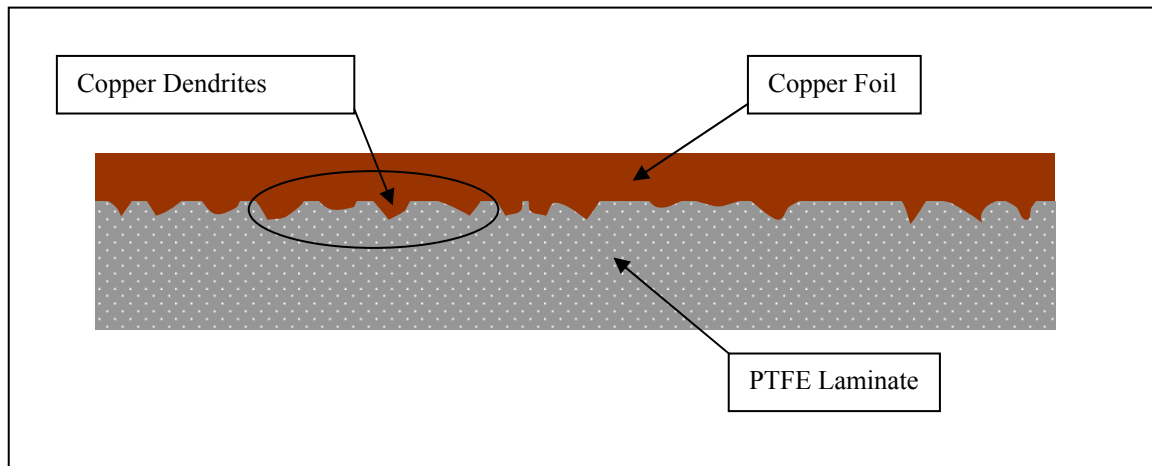
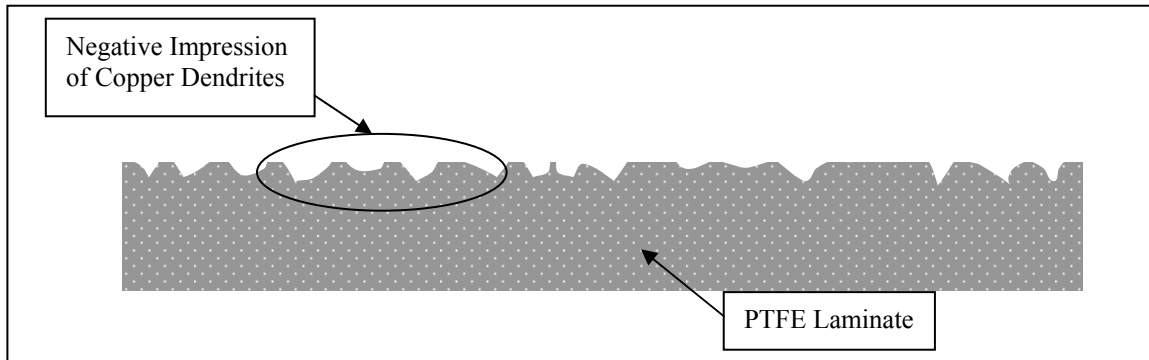
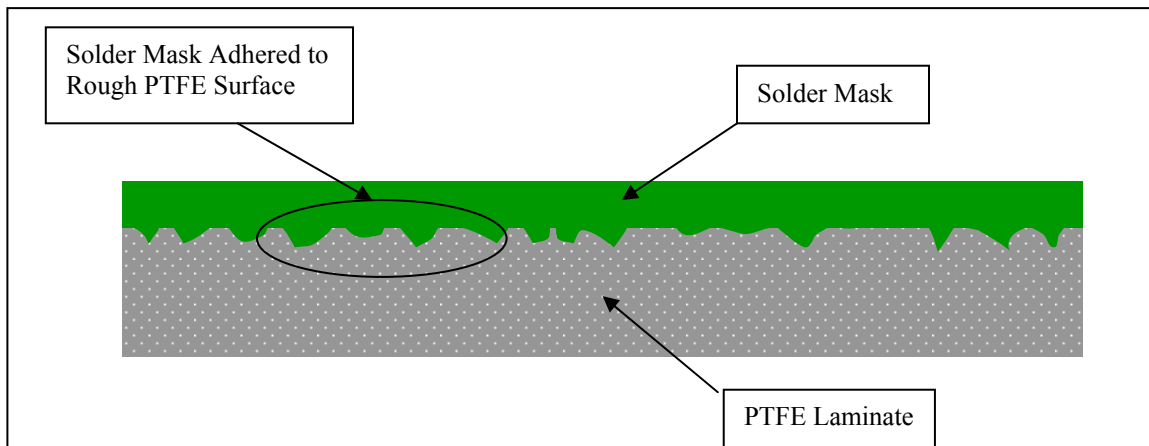

Figure 2 – Illustration of copper laminated to PTFE surface.
Figure 3 – Illustration of PTFE surface remaining after copper removal/etching.
Figure 4 – Illustration of soldermask wetting and adhesion to rough PTFE surface.
**Bond Surface Condition:** The condition of the substrate surface prior to bonding is critical in achieving good inner layer bond strength. As shown in Figure 2, the copper foil of the laminate has a dendrite structure designed to increase the copper peel strength. As the copper foil is etched, the dendrite imprint is left in the substrate surface. It is critical to subsequent multilayer bonding that this structure be present and undisturbed. Any mechanical abrasion of the substrate surface will destroy the imprint pattern and can result in poor bond strength between the layers. If the surface is destroyed, a sodium or plasma etch prior to multilayer bonding will greatly enhance surface adhesion. It is recommended that proper handling techniques be used at all times (see Handling of PTFE Laminates). It is also recommended that any processes used to clean the copper surface be chemical in nature, not mechanical.
The mechanism for adhesion of soldermask (or prepreg or bonding film) to the PTFE laminate surface is the condition of the PTFE surface prior to application. By nature, PTFE is a very low surface energy fluoropolymer and thus it has excellent non-stick properties, which make it highly popular in lubrication and release applications. However, the adhesion of the base copper cladding is achieved by lamination of the relatively rough (Table 3) treated copper surface to the PTFE material under high heat and pressure. This process is able to produce an excellent mechanical bond between the PTFE resin and the rough dendritic surface of the copper (Figure 2). It is the negative impression of the rough copper treatment that remains in the PTFE after etching the copper to form the circuitry pattern (Figure 3), which provides adequate surface area for mechanical bonding of the soldermask to the PTFE surface (Figure 4). Therefore it is important to eliminate traditional scrubbing techniques which may disturb or destroy this rough surface.